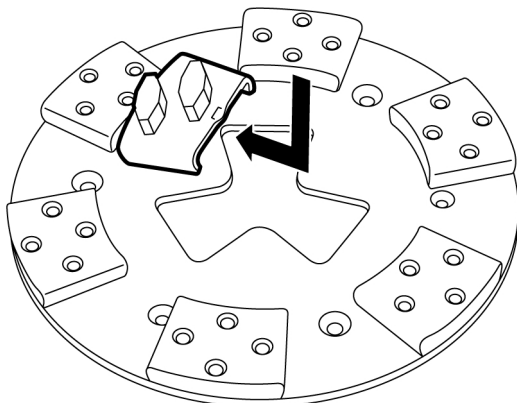

Figure 4-1. Fitting grinding tools
1. Slide the grinding tool diagonally, from above, down into the appropriate guide slot on the tool holder, see Figure 4-1, page 20. Then push the tool fully into the guide slot.
2. Slide the grinding tool diagonally, from above, down into the appropriate guide slot on the tool holder, see Figure 4-1, page 20. Then push the tool fully into the guide slot.